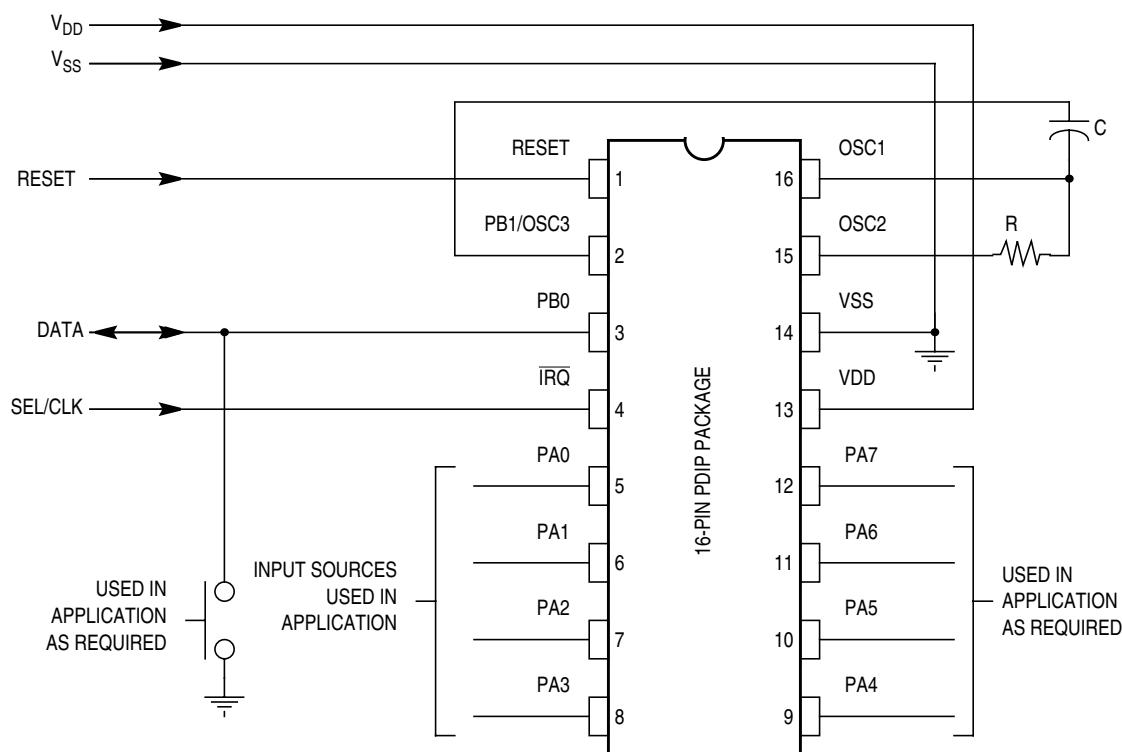

Figure 9-4. Serial Programming Connections
The required schematic considerations are shown in Figure 9-4. The serial programming connections can be shared with the application if certain considerations are met.
5. The diagram in Figure 9-4 shows the 3-pin RC oscillator connections. This circuit also works with the 2-pin crystal and RC oscillators and the PB1/OSC3 pin can be left unconnected in those cases.